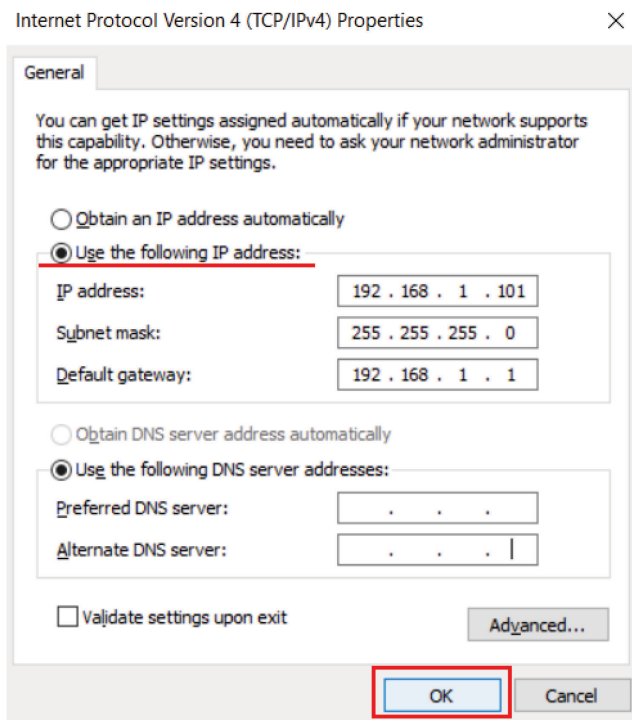

Figure 10. Configuring the IP address settings.
6. Select **Use the following IP address** and enter the following information (Figure 10):